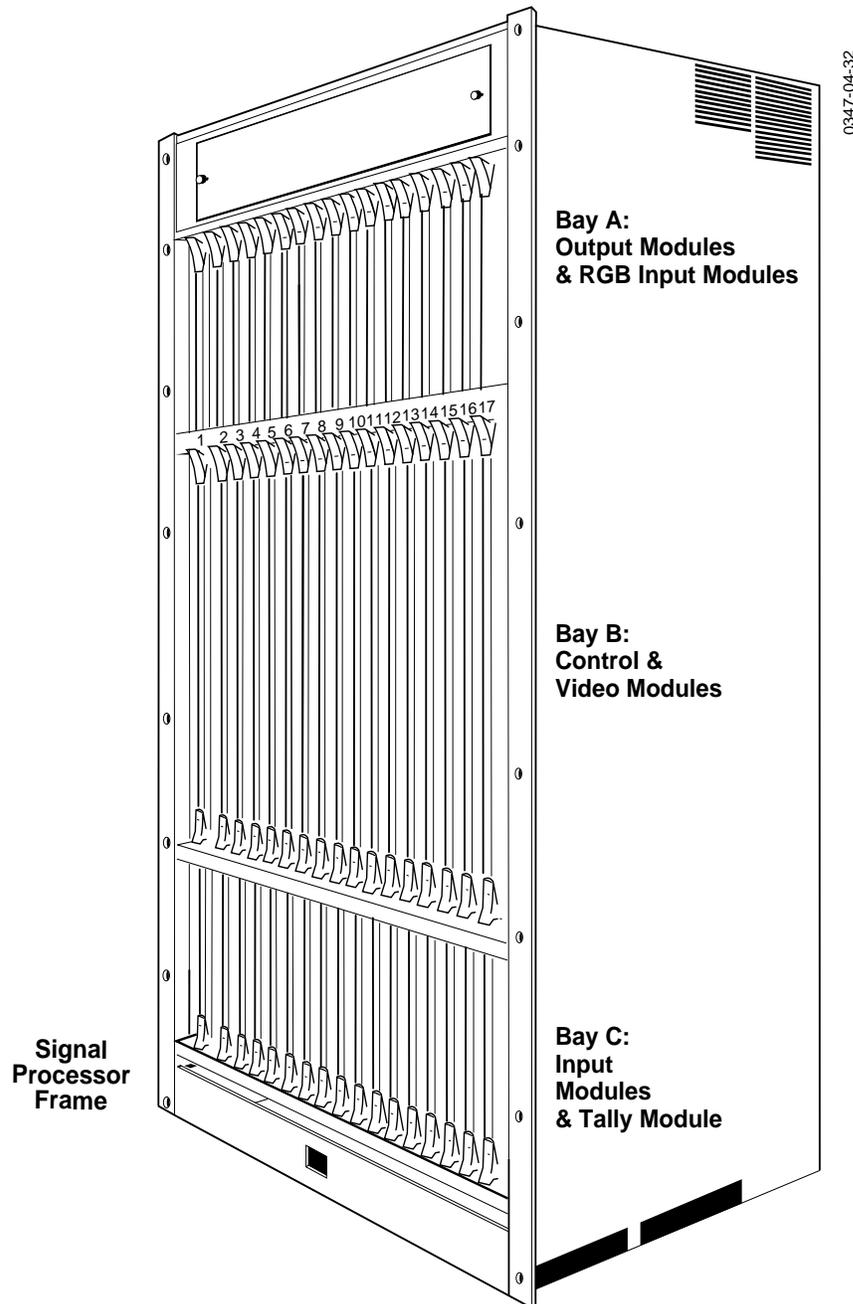

Figure 4-22. Signal Processing Frame Module Bay Locations.
The locations of the Signal Processor frame bays and circuit modules are illustrated in Figure 4-22 and Figure 4-22. The circuit modules in the Signal Processor frame are slide-in units that can be easily removed for servicing or replacement.
1. Place the module in the correct cell. See Figure 4-22. Align the module in the guides and gently slide it in as far as it will easily travel.